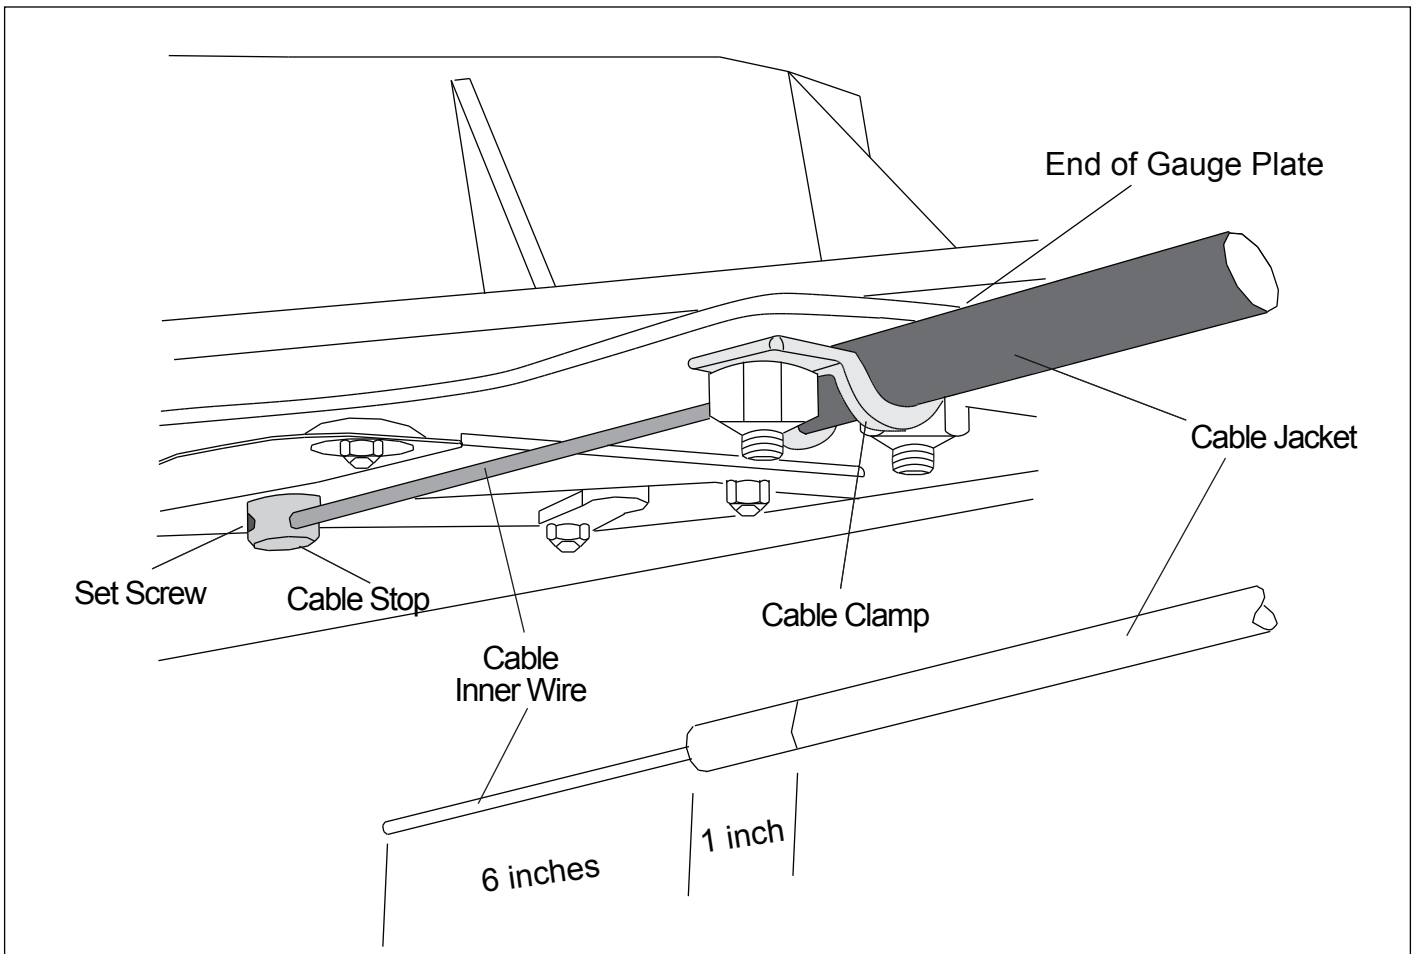

Figure 4
6. Pull cable knob out 6 inches. Cut cable jacket and inner wire cable 1 inch BEYOND mark on jacket. After cutting, push in the knob. The inner wire should extend 6 inches beyond the jacket. See Figure 4.